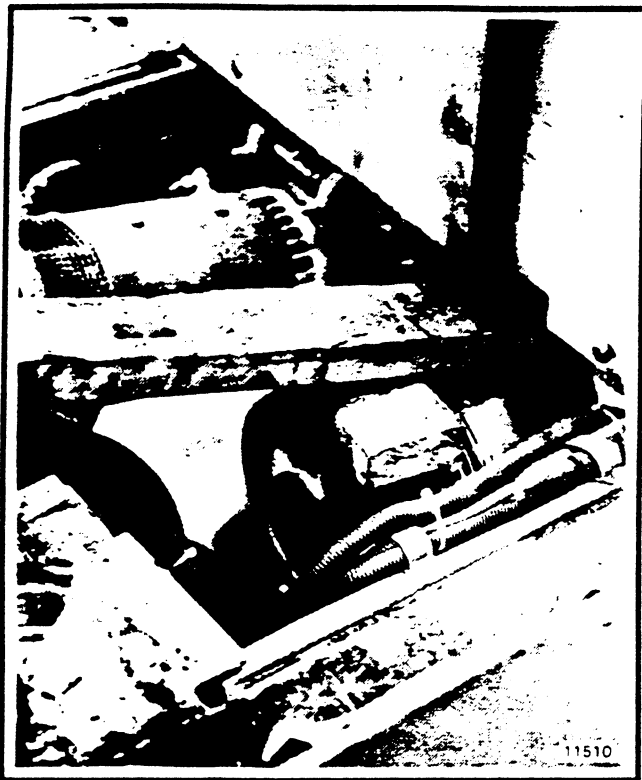

FIGURE 11. ALIGN THE TRACTION MOTOR WITH THE SPEED REDUCER
1. Install a sling to lift the traction motor. Use a wood block and a board under the sling as shown in Figure 11 to control the traction motor during installation.